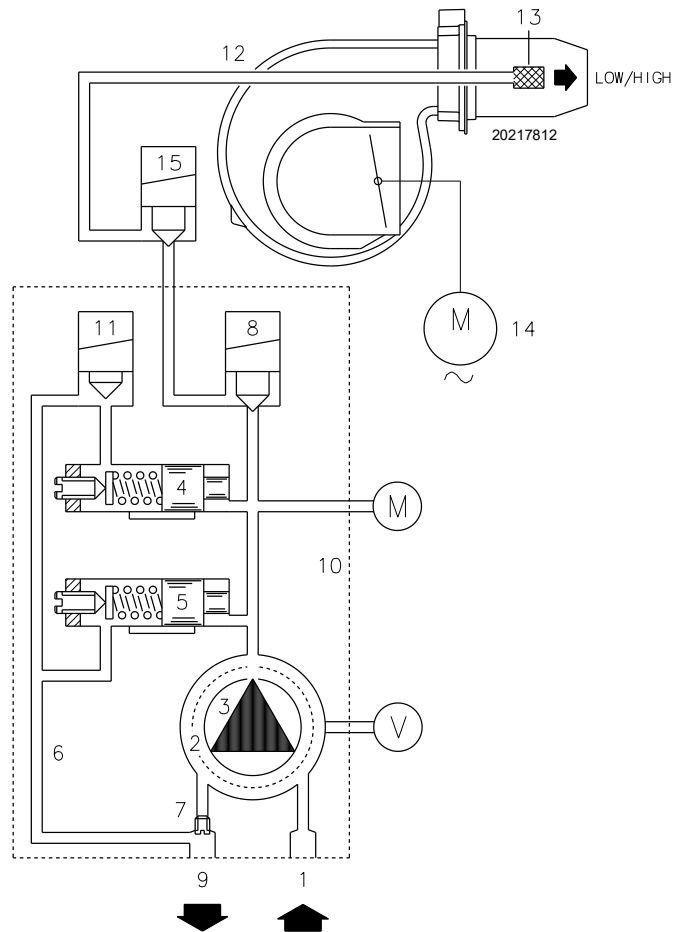

Fig. 26
- When the temperature or the pressure increases until the control device TR opens, solenoid valve 11)(Fig. 26) opens, and the burner passes from the 2nd to the 1st stage of operation.